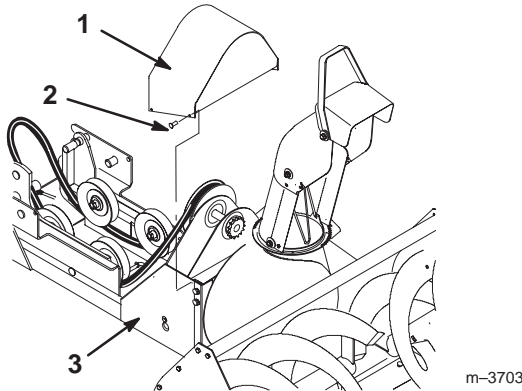

Figure 6
4. Attach the pulley cover to the snowthrower frame assembly with (4) #10 x 1/2" (13 mm) screws (Fig. 6).